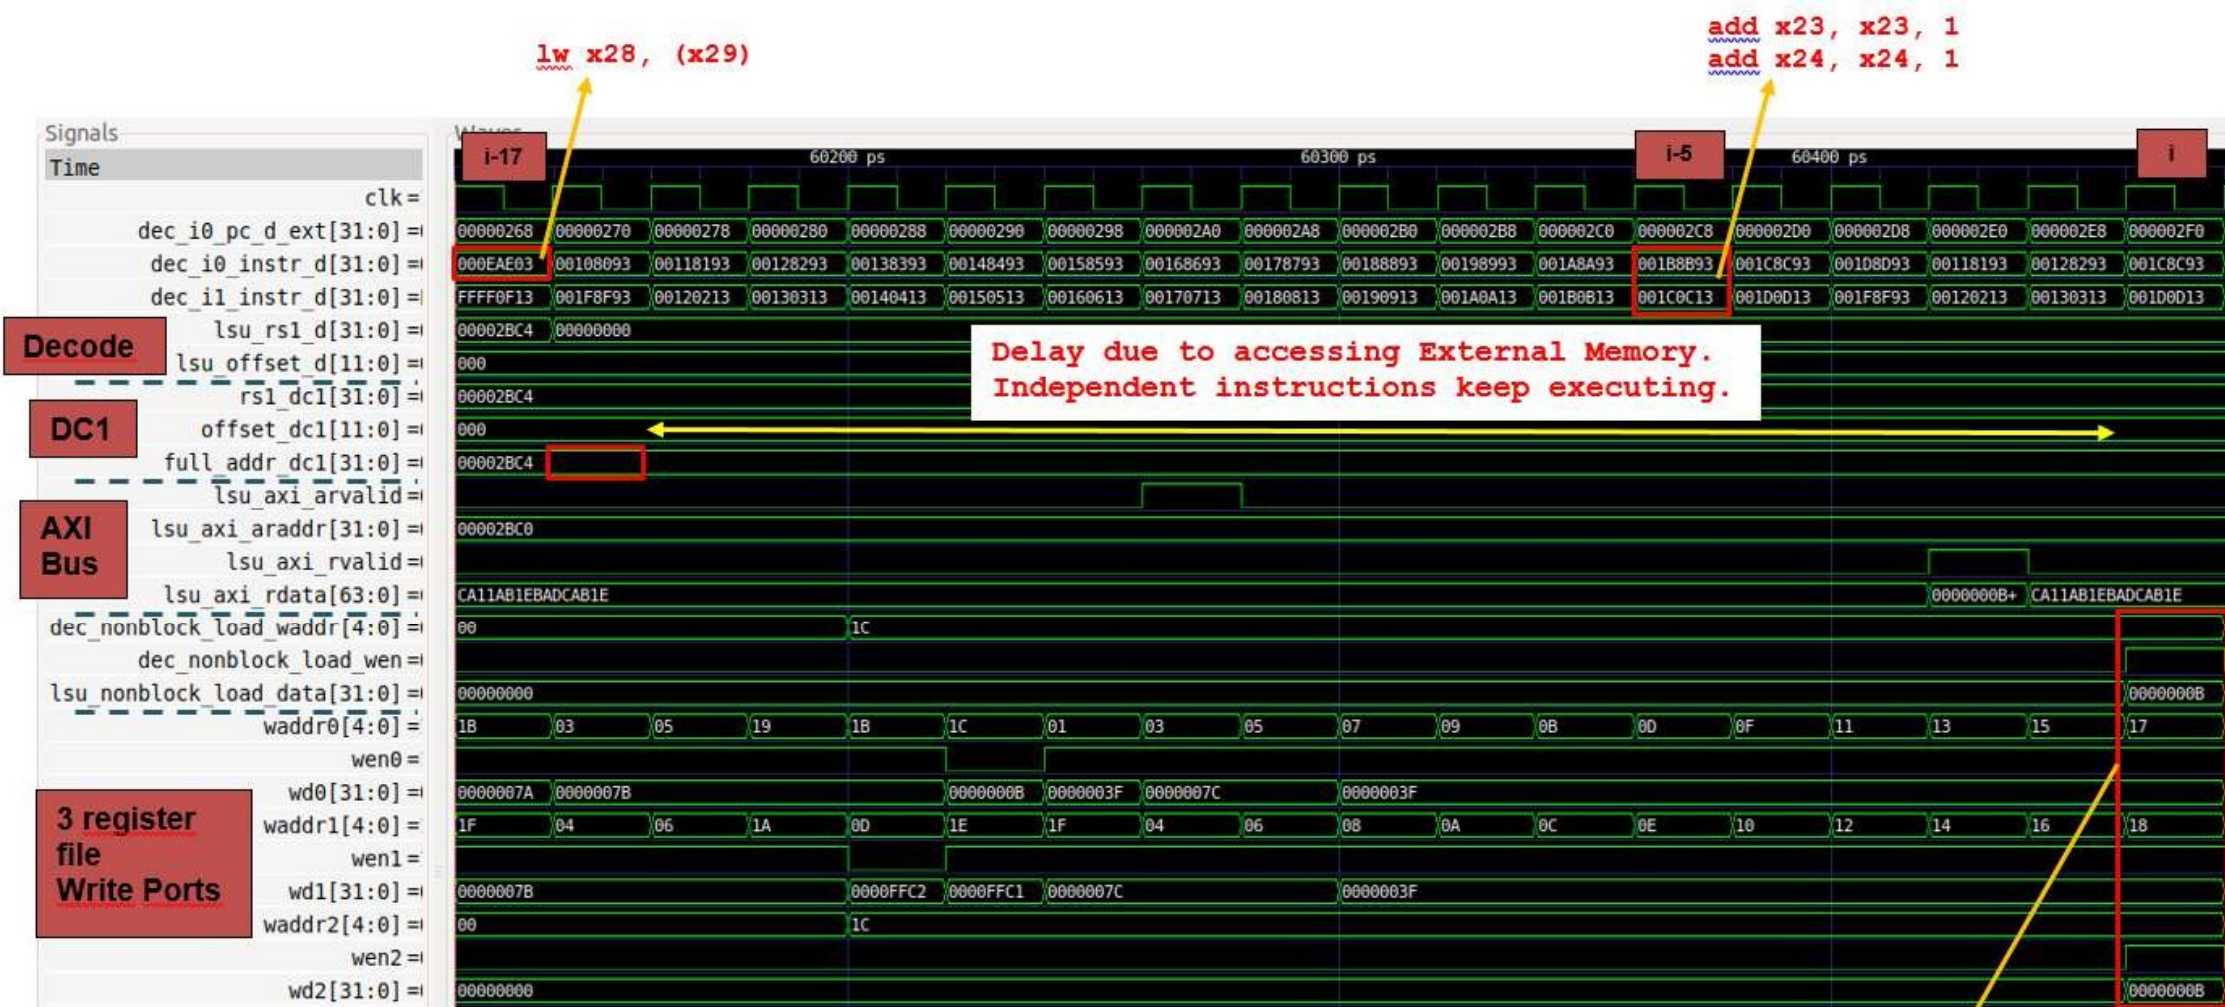

Figure 6. Verilator simulation for the example from Figure 4
- **TASK:** Compare the simulation shown in Figure 6 (non-blocking load) with the simulation shown in Figure 14 of Lab 13 (blocking load).